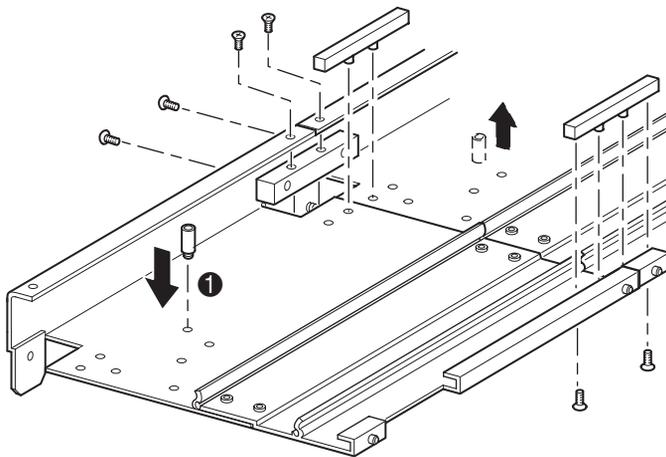

Figure 2-18: Installing tie bars
- b. Align the pins of the two narrow tie bars with the holes in the extension and PTM base unit (see Figure 2-18) and then attach them using four mounting screws (two screws for each narrow tie bar).
- c. Attach the large tie bar (beveled edge to the inside corner of the PTM base unit and extension) using four mounting screws (see Figure 2-18).